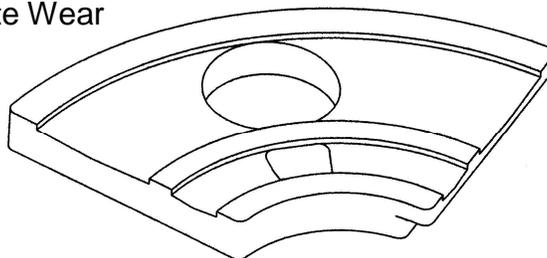

FIGURE 14
- c) If the above does not stop the dust blowing through, shut down the machine entirely, bleed off any residual air and remove the gooseneck adapter and the pad. Clean the housing in the area. Check the conditions of the wear pad. If it has too much wear, deep grooves as in Figure 14, a new or newly reground pad is required to stop the dust, keep production up and reduce plate wear.